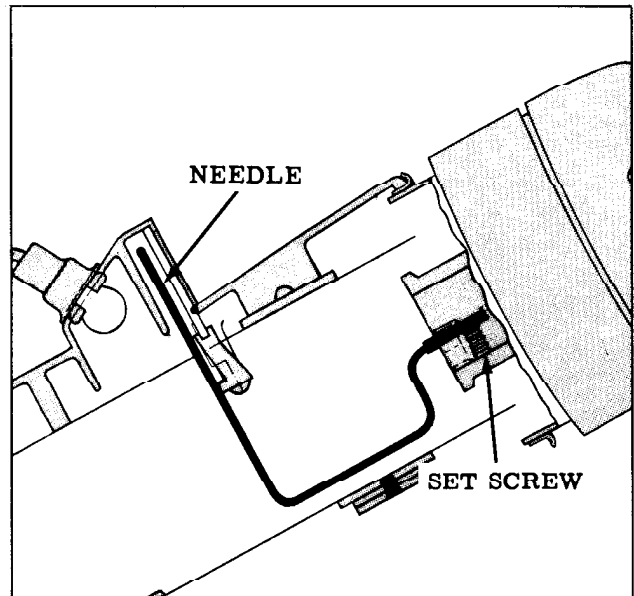

Fig. 4-79 Hydra-Matic Indicator Needle
5. Remove cap from upper mast jacket bracket, then remove the H-M indicator needle from the shifter tube. (Fig. 4-79)